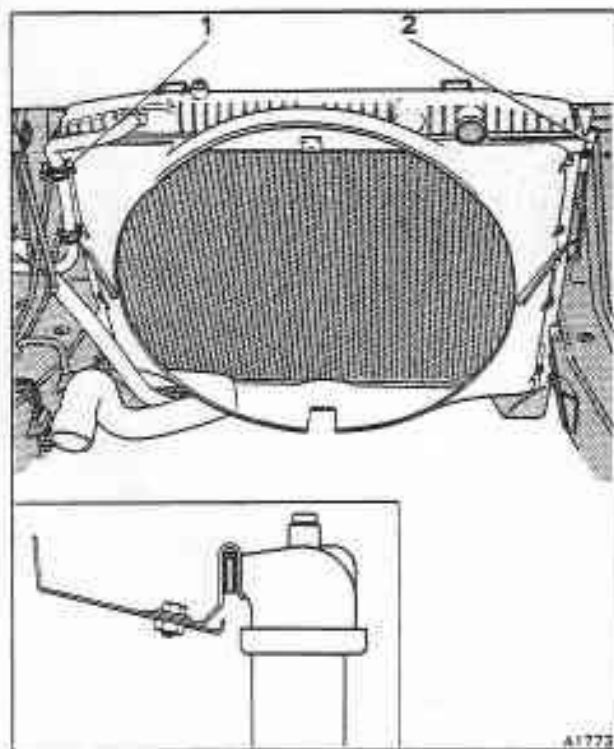

Fig. L4-4 Mounting points for radiator and fan cowl
3. Fit the two halves of the fan cowl (see fig. L4-4), ensuring that on four door cars the clip on each half of